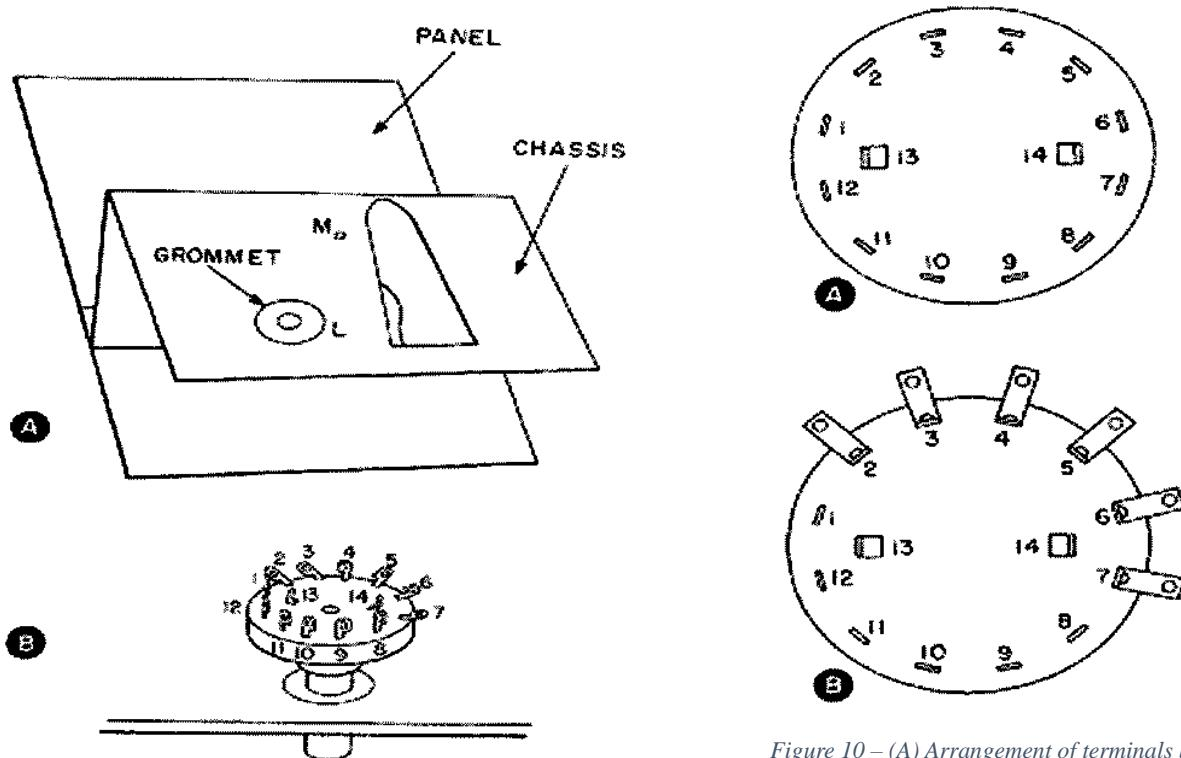

Figure 9 – How to support the range switch for easy wiring.
- () Insert the shaft of the range switch through the grommet in hole L as far as the threaded portion. Fig. 9 shows the position of the switch which is in an upright position so that it is easy to work on. The switch may be easily rotated to any position.